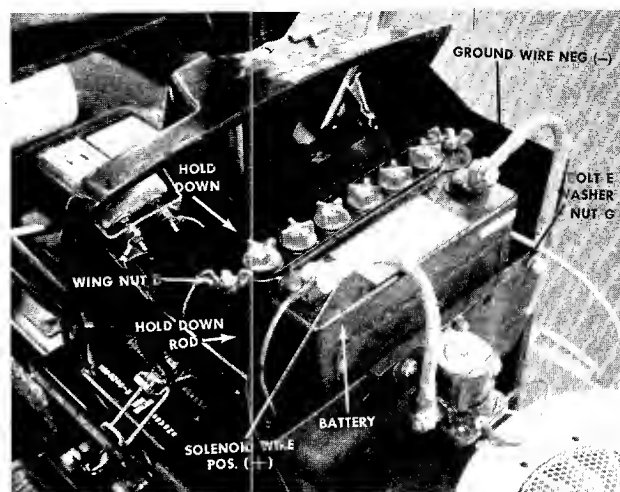

FIGURE 4. INSTALLING THE BATTERY
- b. Place the battery with the terminals to the **FRONT** in the battery case. See figure 4.